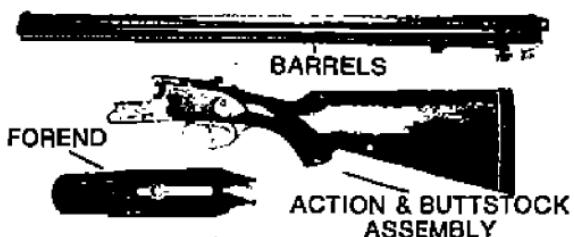

FIGURE 5-MAIN COMPONENT PARTS
3. See Figure 5. Grasp the barrels in one hand and the action in the other. Insert the cam between the barrels into the matching opening in the action. Make sure the cam is fully seated on the action pivot pin by pushing barrels down and forward.